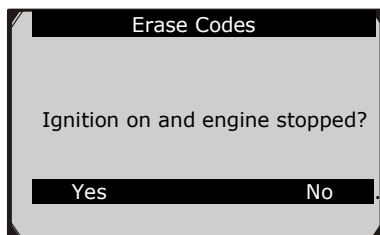

Figure 5.6
- 2) After you have pressed **OK** button, a message will come up asking you to check the ignition and engine status. (Figure 5.6)